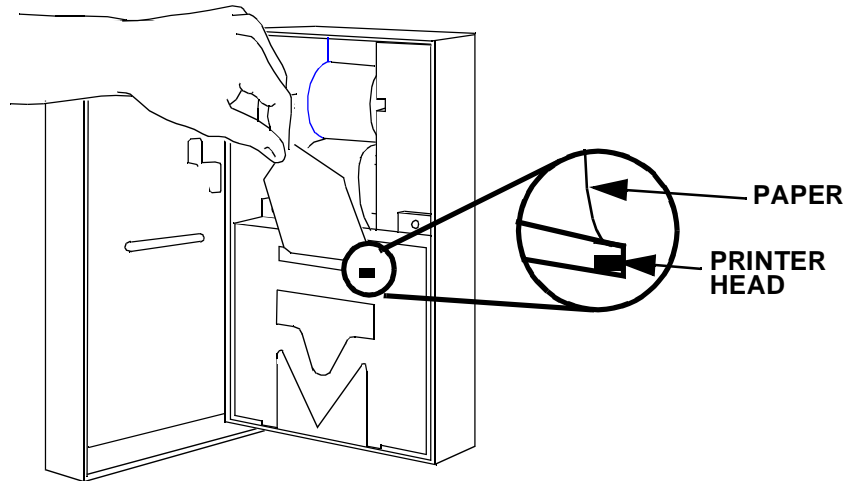

Figure 18. Paper Over Printer Head
5. Press the PRINT button to advance the paper. The paper tongue will become visible and longer [Figure 18].